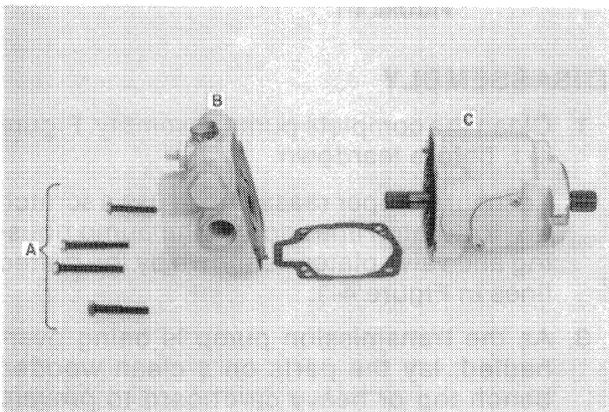

FIGURE 4-3
5. To separate the valve plate from the pump housing, remove the four bolts, A, Figure 4-3, and tap the valve plate, B, with a plastic or rubber mallet to separate it from pump housing, C.